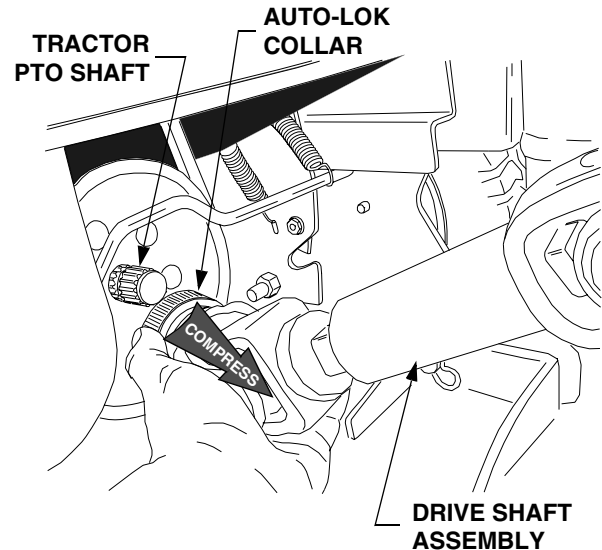

Figure 10
9. Pivot the female half shaft out of the cover slot and position so that it points rearward between the tractor frame. Refer to Figure 10.
11. Compress the auto-lok collar on the snow thrower drive shaft; then slide the shaft fully onto the PTO shaft of the tractor and release the auto-lok collar (See Figure 10). The drive shaft will lock onto the PTO shaft if properly connected. *NOTE: It may be necessary to slightly rotate the drive shaft to align the splines of the shafts.*
2. Compress the auto-lok collar of the snow thrower drive shaft and disconnect the shaft from the tractor PTO shaft. Refer to Figure 10.